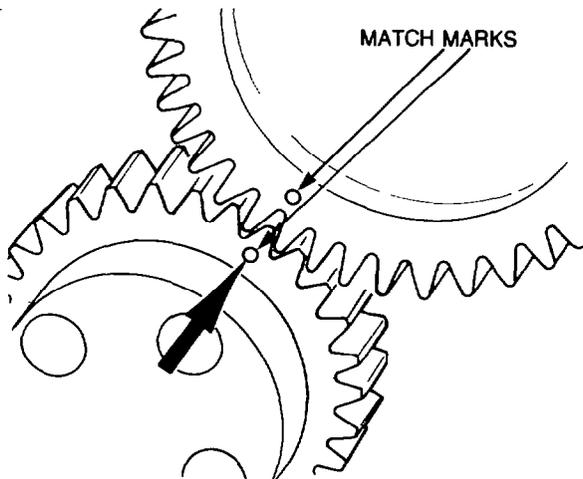

Figure 52 — Camshaft Timing Mark — Alignment
- av. Align the matchmark on the camshaft gear with the matchmark on the crankshaft gear (see Fig. 52), then push